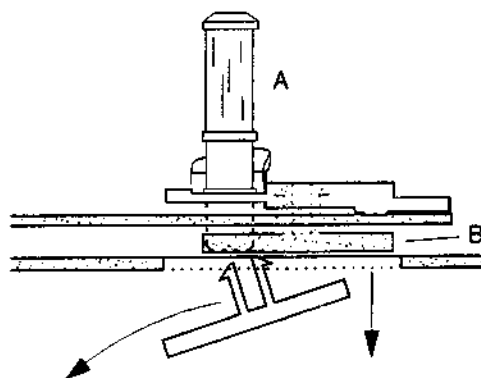

Fig. 10
- Unhinge the loading arm (left) from the holding plate and remove the latter downward from the drive assy through the recess in the chassis (Fig. 10).